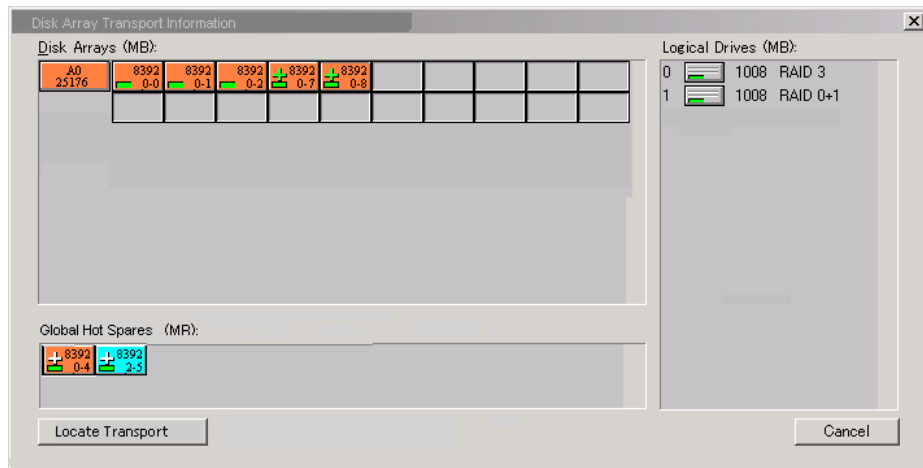

Figure 4-34. Disk Array Transport Information Window
3. Click the Transport Button, the Disk Array Transport Information Window opens (Figure 4-34).